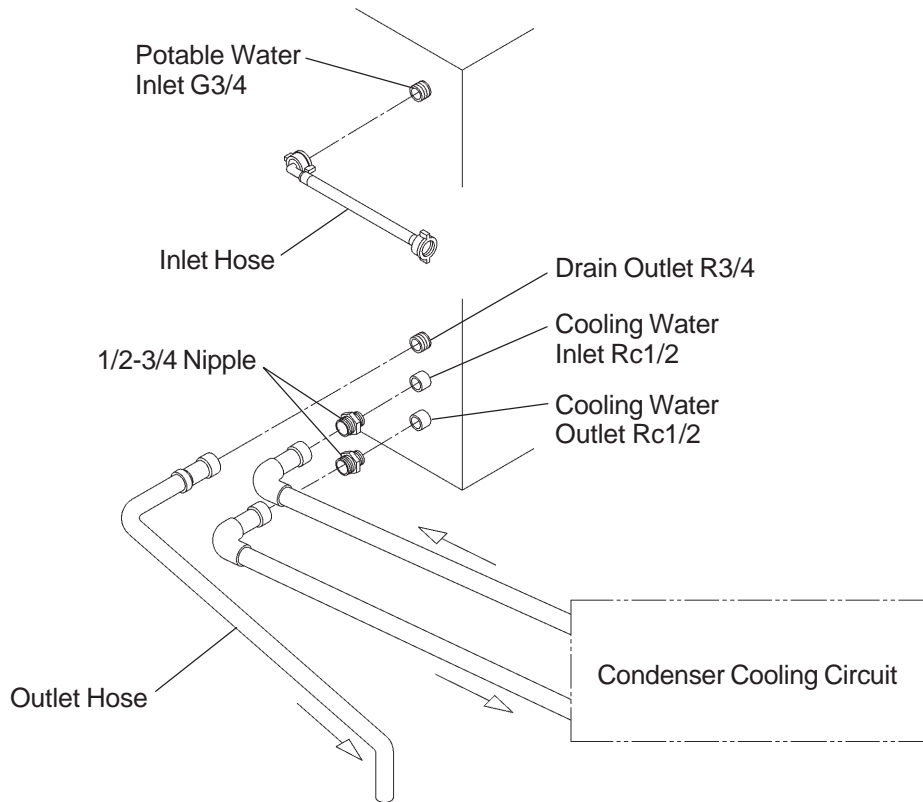

Fig. 9
* Hoshizaki recommends that the water-cooled Condenser should be connected to a closed circuit recirculating type cooling system utilizing a tower, water chiller or similar (see Fig. 9 and 10). Water make up should be via a ball valve/break tank arrangement.
[a] Standard connections according to WRC regulations in U.K. (Fig. 9 and 10)
- 5) Connect the Condenser cooling circuit to the free ends of 1/2-3/4 nipples as indicated (Fig. 9), using a suitable rigid type pipe.